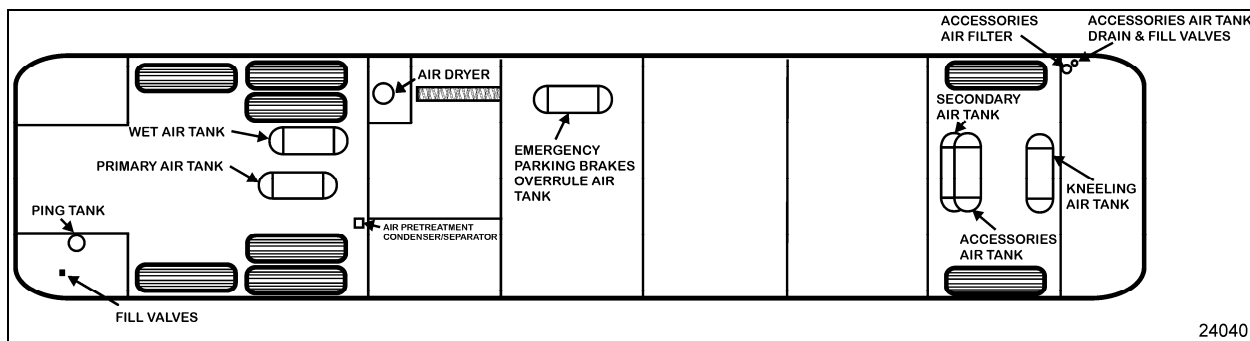
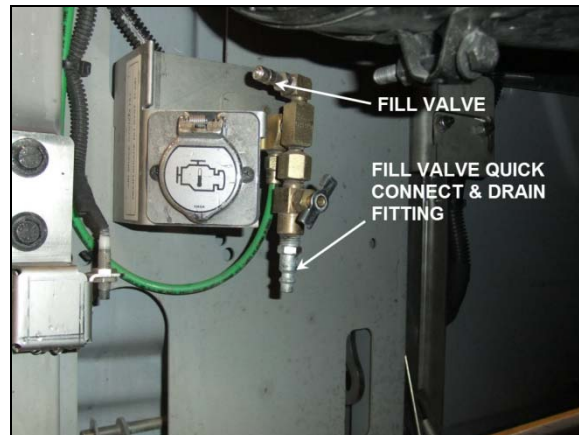

FIGURE 1: I-BEAM FRONT SUSPENSION AIR RESERVOIRS LOCATION
FIGURE 3: EMERGENCY AIR SYSTEM FILL VALVES AND DRAIN COCK 12211_1
The air coming from the compressor is first forwarded to the ping tank, then to the Haldex condenser-separator, the air dryer, the wet air tank, the primary (for the primary brake system), secondary (for the secondary brake system), and accessory (for the pneumatic accessories) air tanks (Figure 1).
This reservoir is located above the R.H. wheel of the drive axle and is provided with a bottom drain valve (Figure 1 & Figure 3). It is recommended to purge the primary air tank every 12,000 miles or once a year, whichever comes first.
The accessory air tank is installed close to the front axle and is provided with a bottom drain valve (Figure 1).
This tank is located in the front wheelhousing, behind the steering axle (Figure 1). It is provided with a bottom drain valve.
The kneeling air tank is located in the front wheelhousing (Figure 1), and is provided with a bottom drain valve.
All vehicles come equipped with two emergency fill valves that enable system pressurization by an external source such as an air compressor. The rear valve is located in the engine compartment and is accessible from engine R.H. side door (Figure 3). It is positioned close to the door opening.
The air dryer and wet tank may be purged simultaneously for maintenance purposes using the drain cock on the emergency air system fill valve located in the engine compartment and accessible through the engine compartment R.H. side door (Figure 3).
6. Purge the air dryer and wet air tank. To do so, open the air system emergency air-fill valve drain cock (Figure 3).
18. Close the air system emergency air-fill valve drain cock (Figure 3).